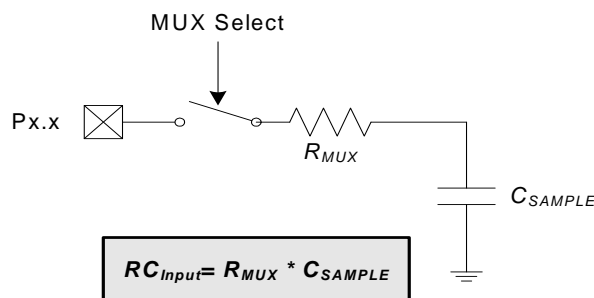

Figure 4.6. ADC0 Equivalent Input Circuits
Figure 4.6 shows the equivalent ADC0 input circuit. The required ADC0 settling time for a given settling accuracy (SA) may be approximated by Equation 4.1. When measuring the Temperature Sensor output, use the settling time specified in Table 2.3 on page 28. See Table 2.3 on page 28 for ADC0 minimum settling time requirements.